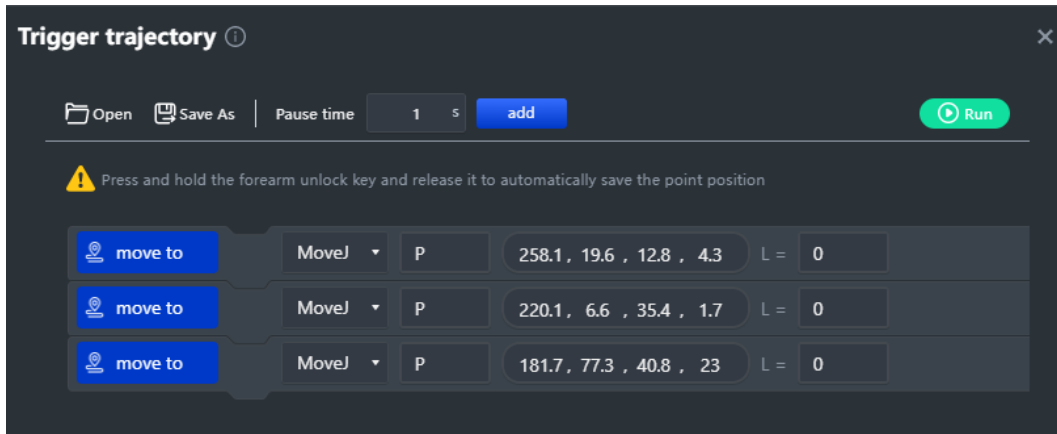

Figure 5.46 Trigger line page
2. Click  to enter the “Trigger Trajectory” page for setting ink dipping actions, as shown in Figure 5.46.